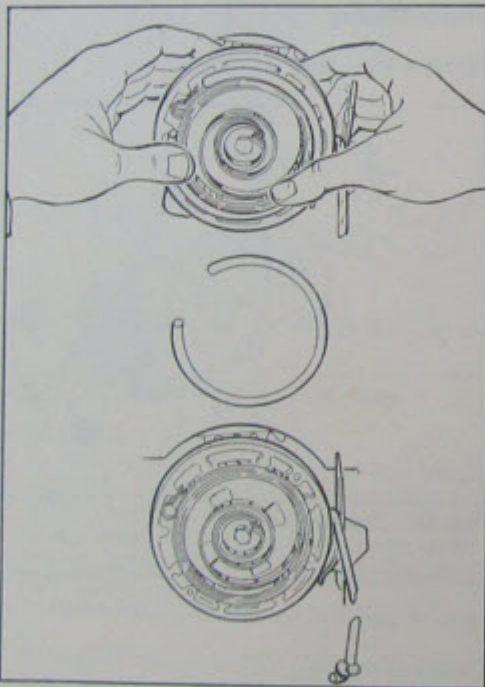

Fig. 27 Replace main spring
- Remove the two screws (1) and springs cover (2). The spring may be replaced at this point without further disassembly.
- Remove old spring (5) and place new spring complete with keeper in position and push spring into place in the container (Fig. 27).